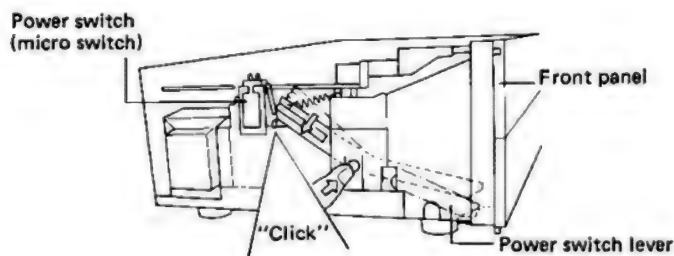

Fig. 5-3 Power Switch Setting
3. Press the micro switch (power switch) ON as shown in Fig. 5-3, and then the START/STOP switch.
The PL-X7 has been designed to switch the power on and off when the front panel is opened and closed respectively. After the front panel has been mounted, the power switch is set by pressing the micro switch end of the power switch lever in the direction of the arrow by forefinger while holding the pivot of the lever by thumb with the front panel closed. The switch is set when a "click" sound is heard. Note that the slide base is in the housed position at this time (see Fig. 5-3).